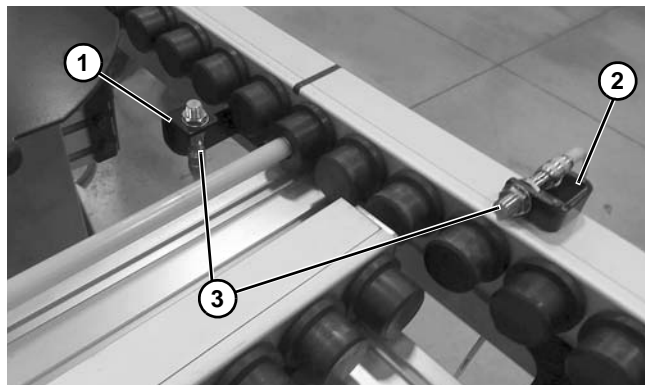

Figure 15
Optional bottom mount (**Figure 15, item 1**) or side mount (**Figure 15, item 2**) sensor brackets can be used to mount a 12 mm barrel proximity sensor (**Figure 15, item 3**).